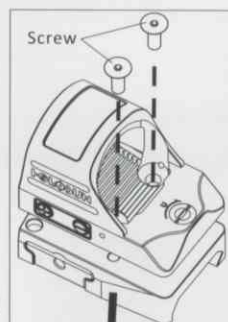

Fig 3-1
- 1) Loosen screw 1,2. Take off the sight from mount(Fig 3-1).
1. remove the two screws shown in the figure 3-1 and take off the base mount of HS407C.